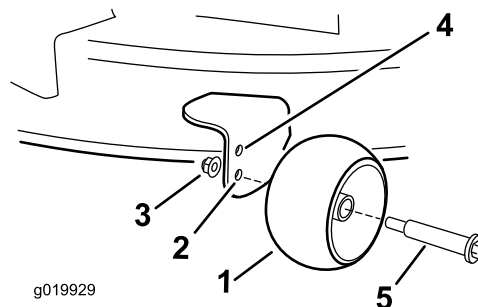

Figure 23
- Upper hole—use this position with the mower deck in the 63 mm (2-1/2 inches) and below the height-of-cut positions (Figure 23).
- Lower hole—use this position with the mower deck in the 76 mm (3 inches) and above the height-of-cut positions (Figure 23).